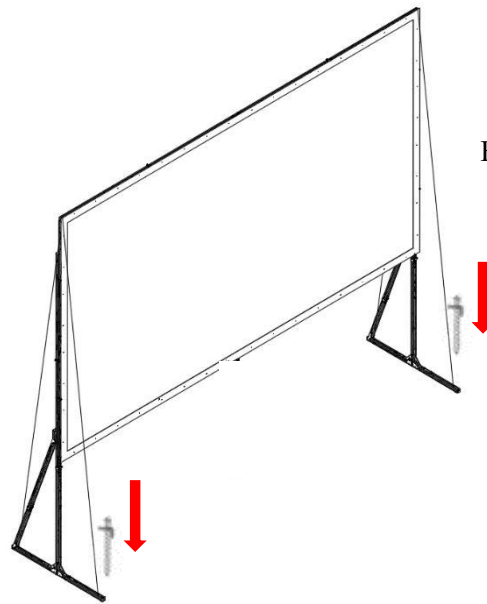

Fig 18
1. To secure the frame, place a **stake (K)** into each hole located on the frame footing, and hammer it into the ground. Finally, tie the 4 **ropes (I)** to the stakes and through the **eyebolts (J)** to prevent the screen from tilting or falling over. As shown in Fig. 18